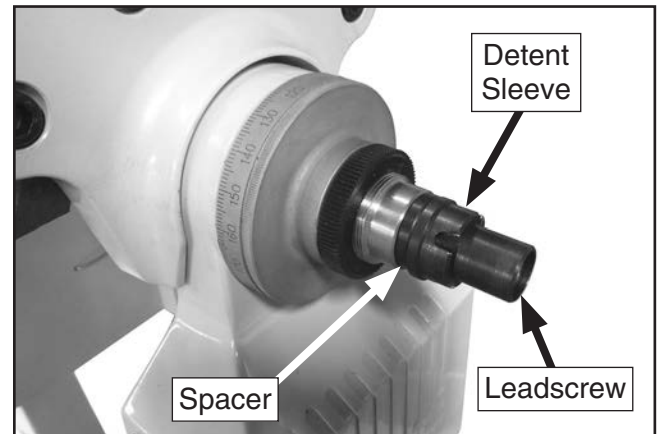

Figure 75. X-axis leadscrew with retaining nut, power feed ball handle, and compression spring removed.
2. Push ball handle *in* to engage detent sleeve and prevent leadscrew from rotating, then remove ball handle nut, ball handle, and compression spring from power unit end of X-axis leadscrew (see **Figure 75**).
3. Remove detent sleeve and spacer (see **Figure 75**).